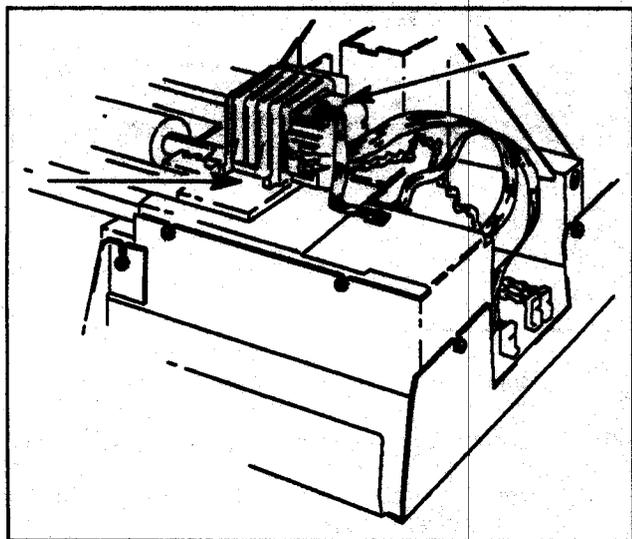

Figure 6-17. Drive Shaft Motor Clamp
- e. Remove the $\frac{7}{32}$ in. nut securing the ground strap and remove the strap from the motor lug. See Figure 6-17.
- f. Using a common screwdriver, press in and lift at the lower front edge of the motor clamp. See Figure 6-17.